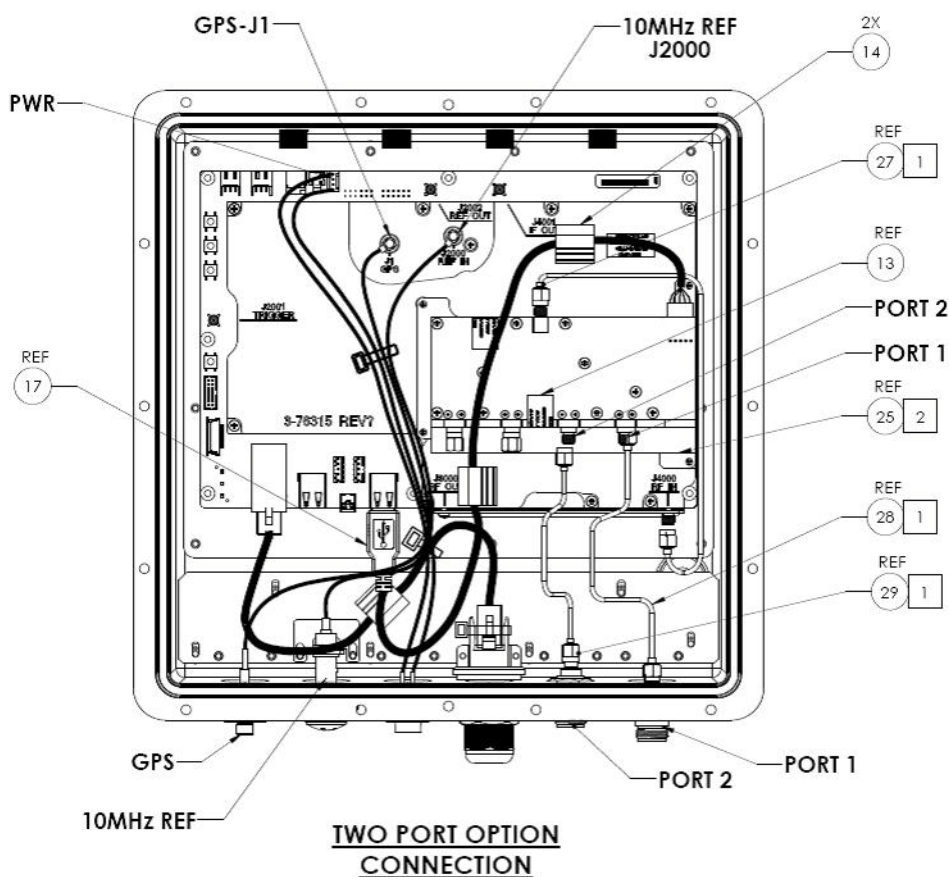

Figure 3-7. MS27102A with Top Cover Removed
2. Referring to Figure 3-7, disconnect the PWR, GPS (J1), and 10 MHz REF (J2000) cables from the SPA PCB.
3. Referring to Figure 3-7:
- For 1-port instruments, disconnect the semi-rigid cable between Port 1 and the SPA PCB (REF 28). Note Figure 3-7 is showing a two port instrument, one port instruments have the semi-rigid cable from port 1 connected directly to the SPA PCB J4000 instead of the MUX PCB.